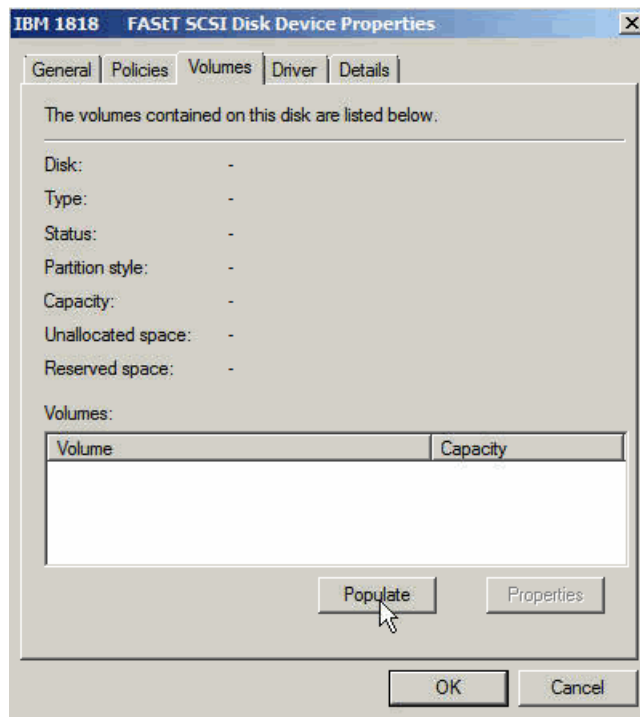

Figure 2-91 Volumes Tab
5. We can also check the volume information, by clicking the **Volumes** tab. To populate the information, you need to click **Populate** at the bottom of the window, as shown in Figure 2-91.